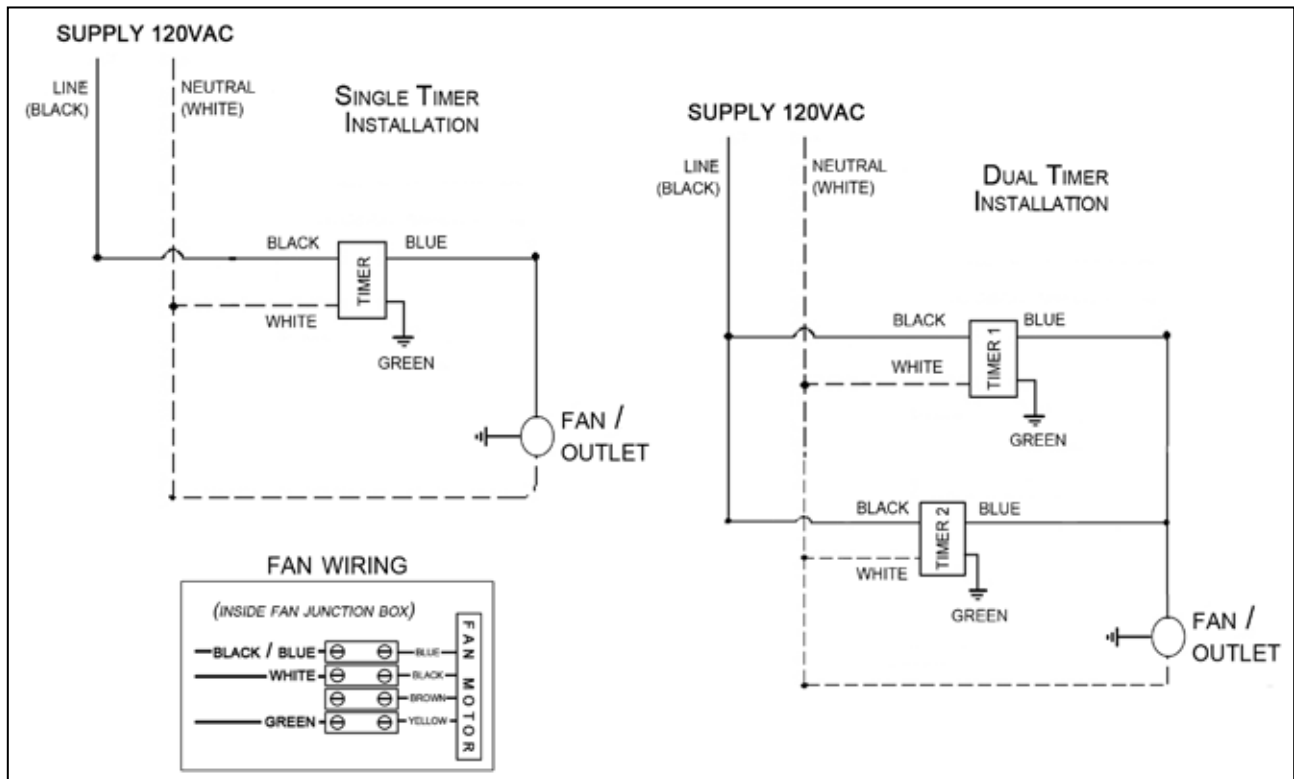

Figure 1. Timer & Fan Wiring
3. Electrical connection: The fan can be plugged into an outlet in the attic using the supplied 3-prong power cord, or alternatively, the power cord can be removed and the fan can be hardwired directly to the timer switch (see **Figure 1. Timer & Fan Wiring**, on page 4). Please consult local codes for standards, and/or contact an electrician for further assistance with the wiring.